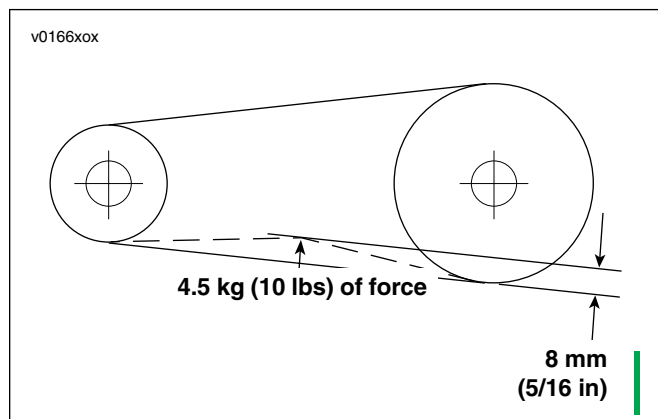

Figure 2-24. Checking Belt Deflection Specifications
3. See Figure 2-24. Using BELT TENSION GAUGE (HD-35381), apply 4.5 kg (10 lbs) of force upward.
4. See Figure 2-24. Verify that the drive belt deflects 8 mm (5/16 in).
4. If belt adjustment is necessary, see Figure 2-24. Remove snap ring (1) and loosen axle nut (2) on right side of motorcycle.